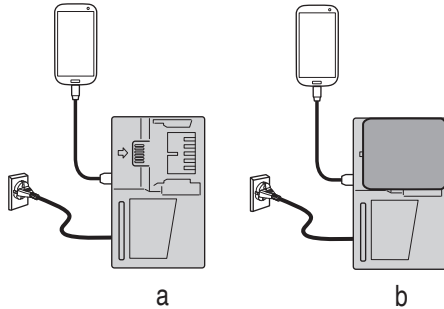

Fig. 15
- Charging a USB device from a electrical outlet (**Fig. 15-a**).
- Charging a USB device and battery from a electrical outlet. (**Fig. 15-b**)